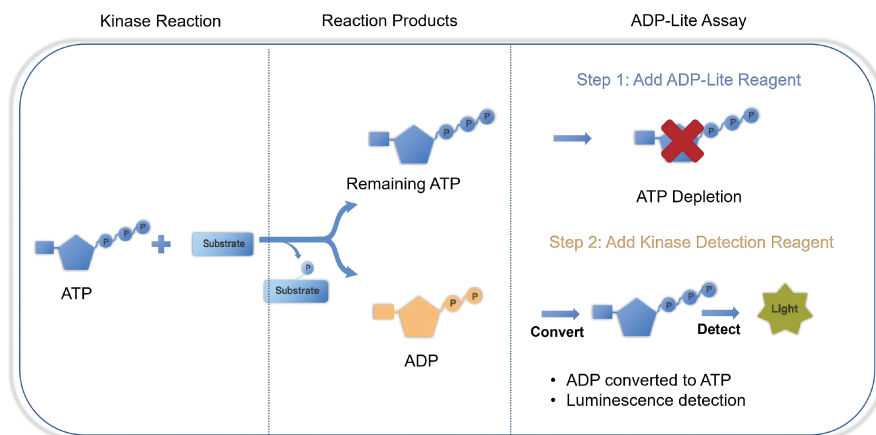

Figure 1. Assay Principle
The kit contains two core components: ADP-Lite Reagent (for ATP depletion) and Kinase Detection Reagent (for ADP detection). Kinase Detection Reagent is prepared by mixing Kinase Detection Buffer and Kinase Detection Substrate (Lyophilized). After the kinase reaction, ADP-Lite Reagent is added to deplete any remaining ATP. Kinase Detection Reagent is then added to terminate ATP depletion and convert the ADP generated by the kinase reaction to ATP. Finally, the luminescence signal produced from luciferase-luciferin and ATP is measured using a microplate reader to quantify kinase activity (Figure 1). The kit is suitable for kinase reactions with ATP concentrations ≤ 1 mM. Luminescence signals are stable for up to 3 hours (coefficient of variation (CV) < 20%), ensuring reliable and reproducible results.